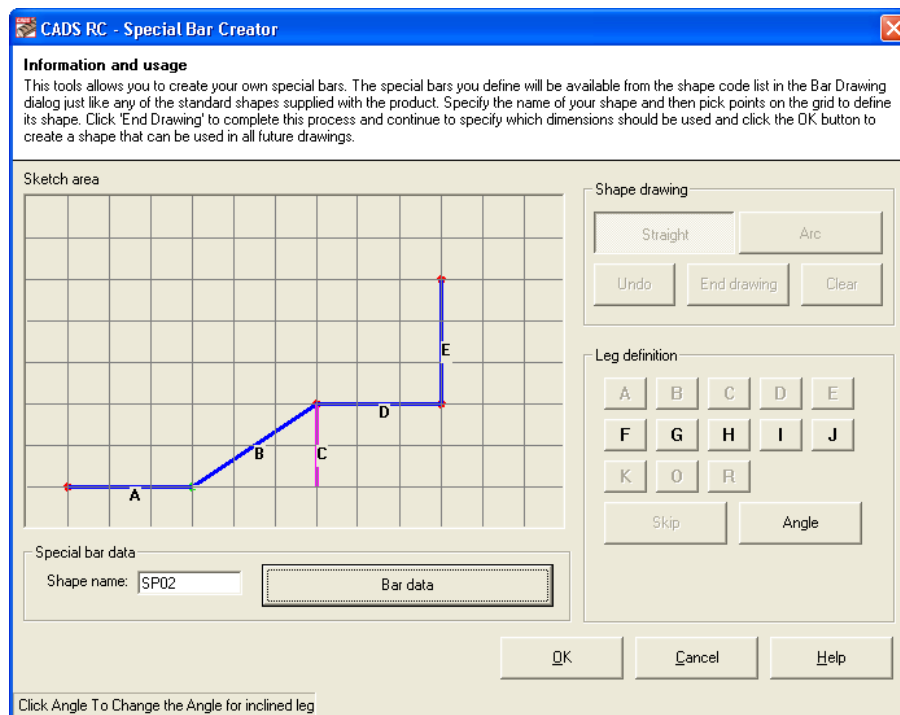

Figure 4.6.2:1 The Special Bar Creator window
6. Pick points on the grid, as shown in figure 4.6.2:1 below, to specify the bar legs
9. Individual legs will be shown in green. Select the *Dimension Letter* as per figure 4.6.2:1. Skip assigning a letter to the *Horizontal Crank Dimension*